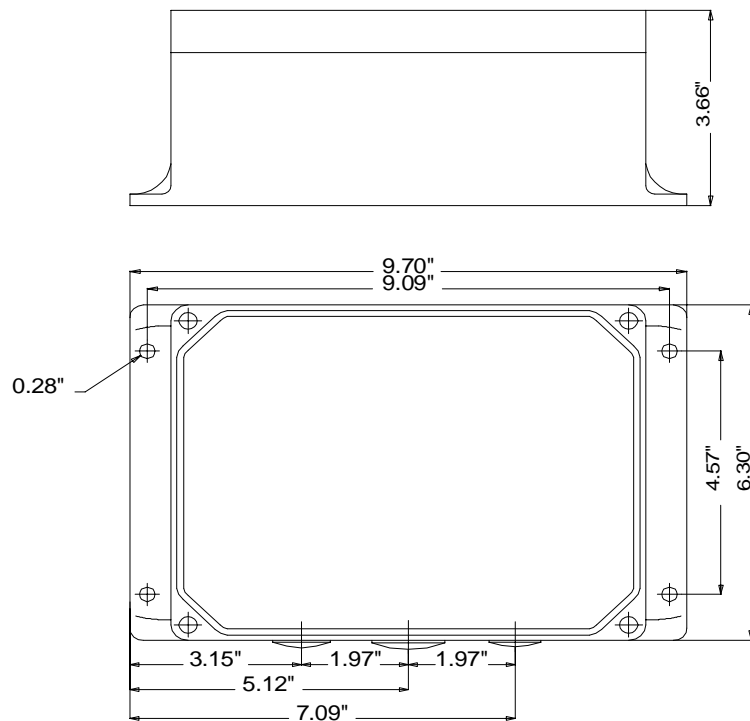

Figure 2.3: JRX-14 Enclosure Mounting Dimensions
Use Figure 2.3: JRX-14 Enclosure Mounting Dimensions for dimensions and mounting hole spacing.
2. Refer to Figure 2.3: JRX-14 Enclosure Mounting Dimensions. Drill holes 7 mm in diameter (.28 in.) into the mounting surface. The depth of the hole depends on the type of screw you are using to mount the receiver enclosure.